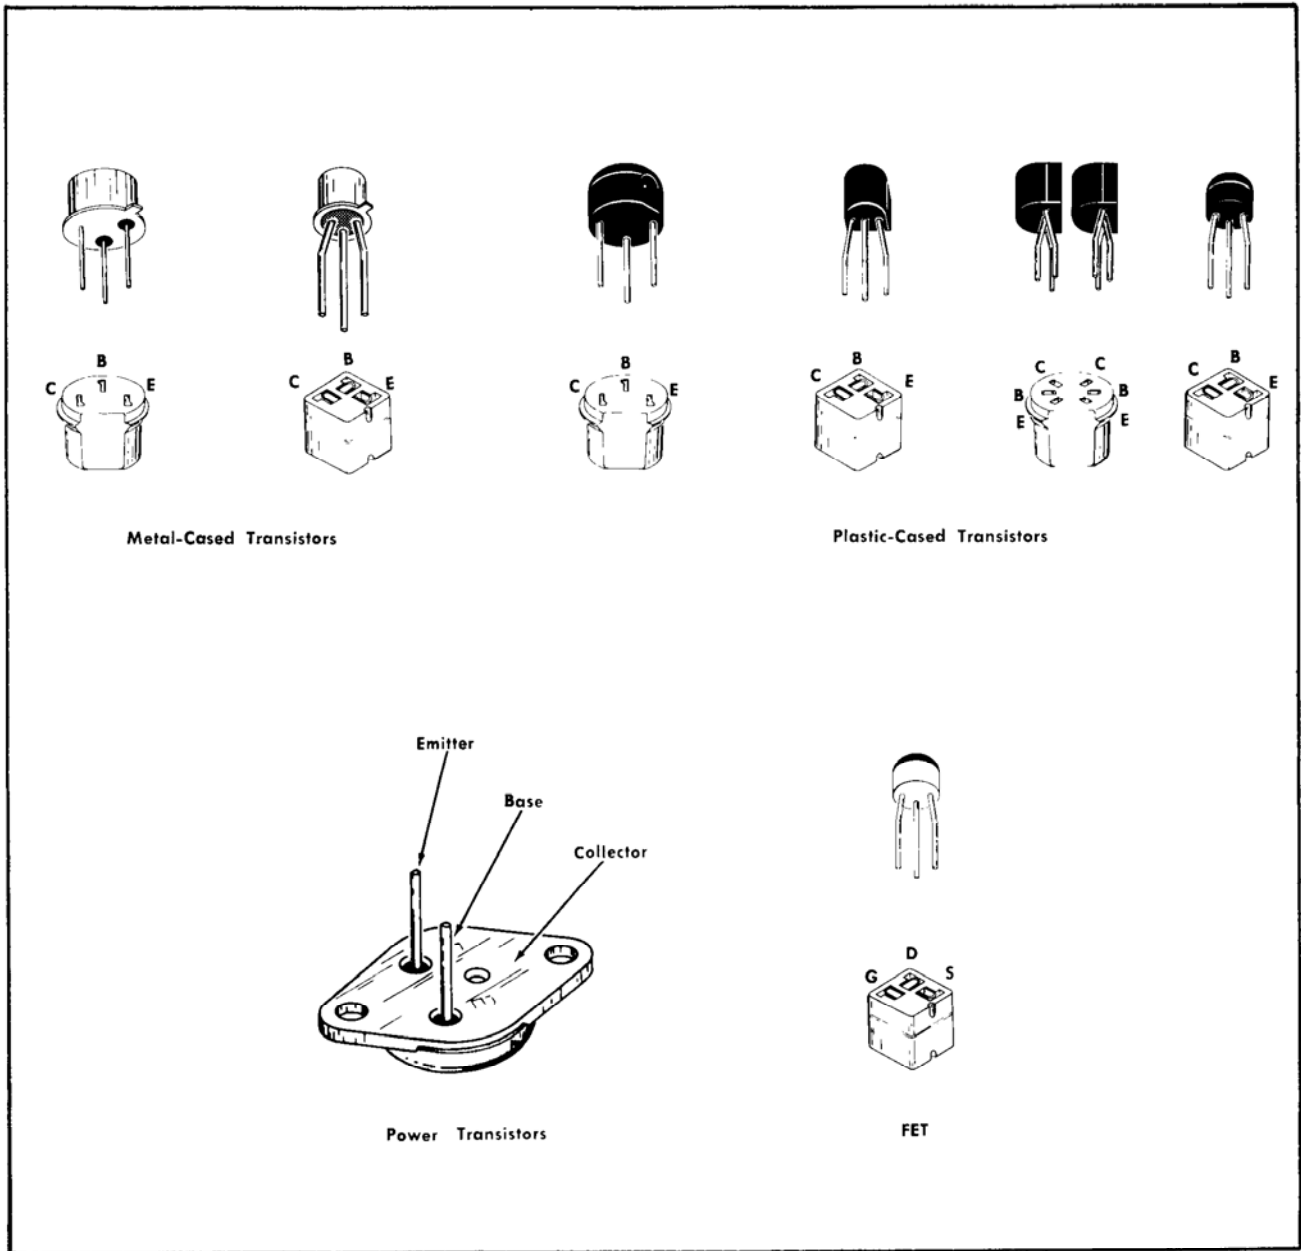

Fig. 4-3. Transistor electrode configuration data.
**A. TRANSISTORS.** The best check of transistor operation is actual performance under operating conditions. If a transistor is suspected of being defective, it can best be checked by substituting a new component or one which has been checked previously. However, be sure that circuit conditions are not such that a replacement transistor might also be damaged. If substitute transistors are not available, use a dynamic tester (such as Tektronix Type 575). Static type testers may be used, but since they do not check operation under simulated operating conditions some defects may go unnoticed. Fig. 4-3 shows transistor base pin and socket arrangements. Be sure power is off before attempting to remove or replace any transistor.